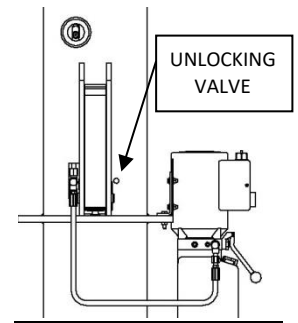

FIGURE 13 : UNLOCKING VALVE
14. PRESS THE UNLOCKING VALVE AND THEN PUSH DOWN PRESSURE RELEASE HANDLE, BOTH PRESSING THEM TO LOWER THE SWING ARMS TO THE GROUND. SEE **FIGURE 13**.